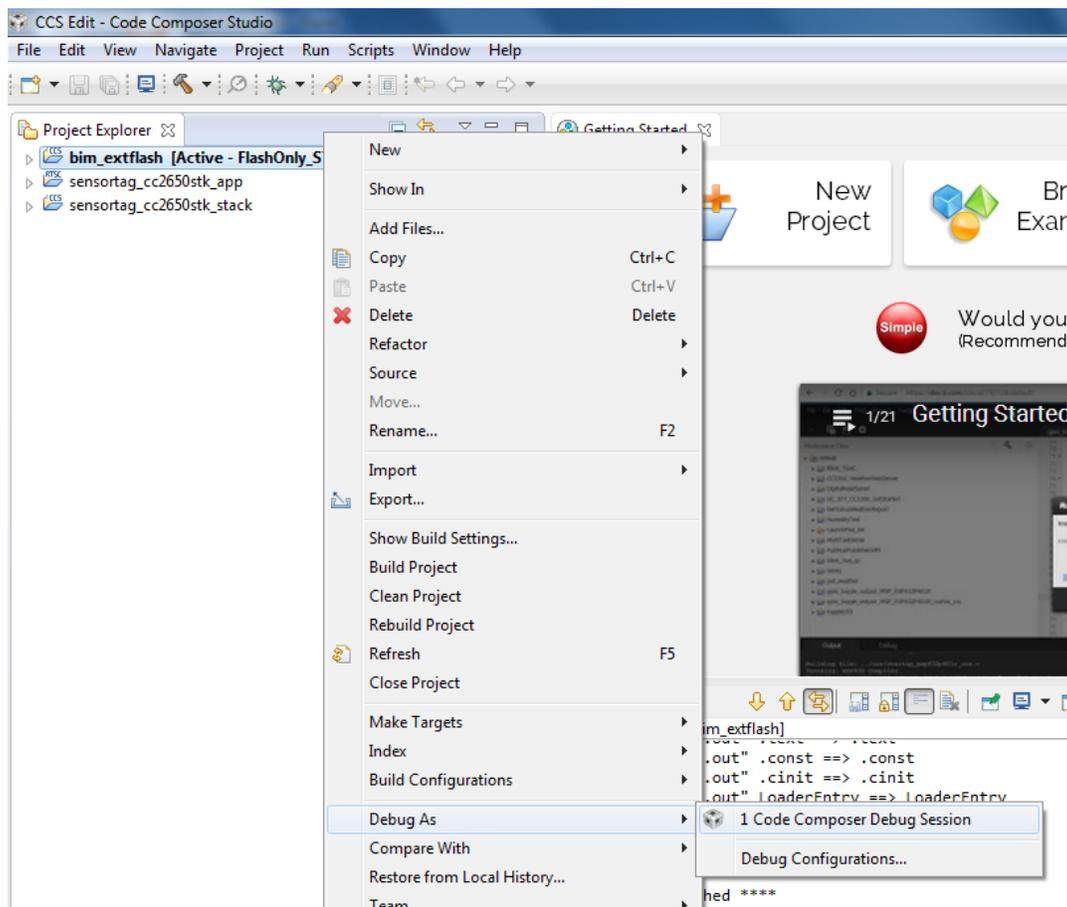

Figure 35, Download/Debug.
- 7) Download/Debug the bim_extflash project. (Figure 35)